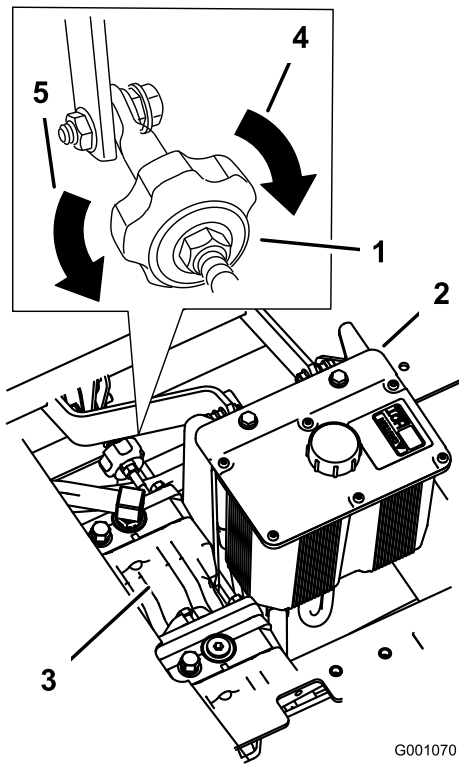

Figure 49
4. Remove the battery as shown in Figure 49
4. To make the machine go right, turn the knob toward the right side of the machine. Refer to Figure 49.
5. To make the machine go left, turn the knob toward the left side of the machine. Refer to Figure 49.